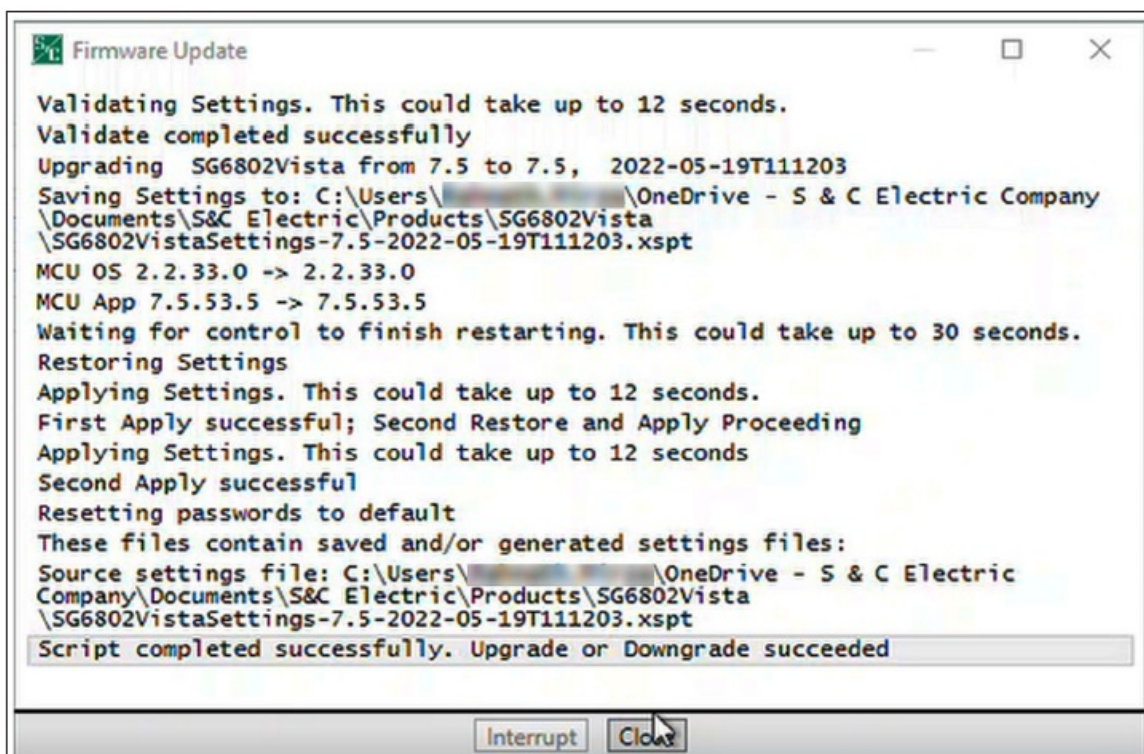

Figure 25. The Script completed successfully notice.
- **STEP 13.** When “Script completed successfully” is indicated in the Firmware Update dialog box, click on the Close button. See Figure 25.